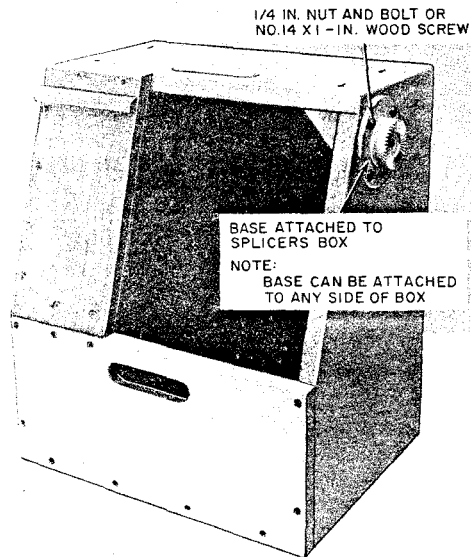

Fig. 11—Base Attached to Splicers Box
4.02 Mounting is provided by two methods. The vise clamp can grip solid objects in the work areas as shown in Fig. 8, 9, and 10, or the base can be permanently attached to the surface as shown in Fig. 11. The other required parts can then be assembled onto the vise clamp of base to fit the needed configuration to mount the tool to assemble the connector.